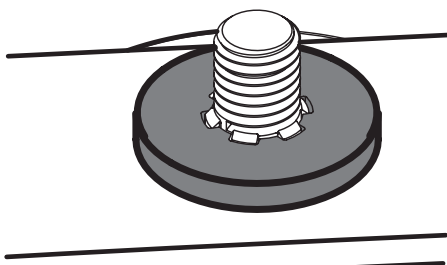

Figure 38
3. Carefully place the flat washer on the spindle shaft. Be sure that the splines at the base of the spindle shaft threads line up with the washer splines. See Figure 38.